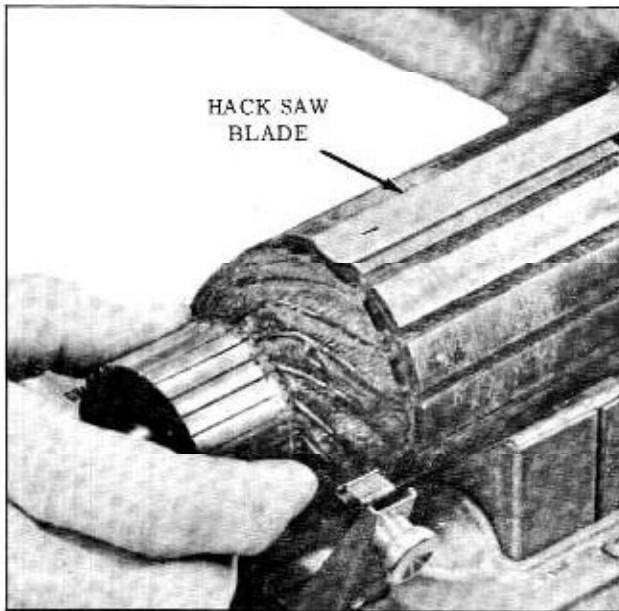

Fig. 13-22 Testing Armature for Shorts
5. Place armature on growler and check for shorts by rotating armature with hack saw blade over core. (Fig. 13-22) If saw blade vibrates, armature is shorted. If cleaning commutator bars does not correct the vibration, replace the armature.